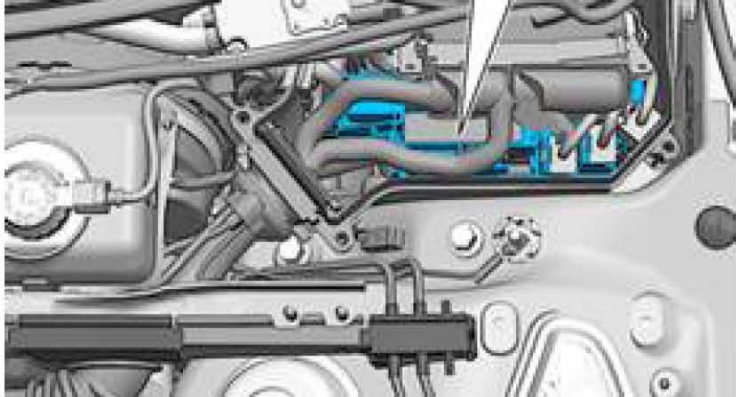

Figure 1. Location of J271 relay (D), as shown in Elsa.
2. Check Elsa for the location of the J271 relay (Wiring diagrams >> Component locations >> Component Locations: Relays) (Figure 1).